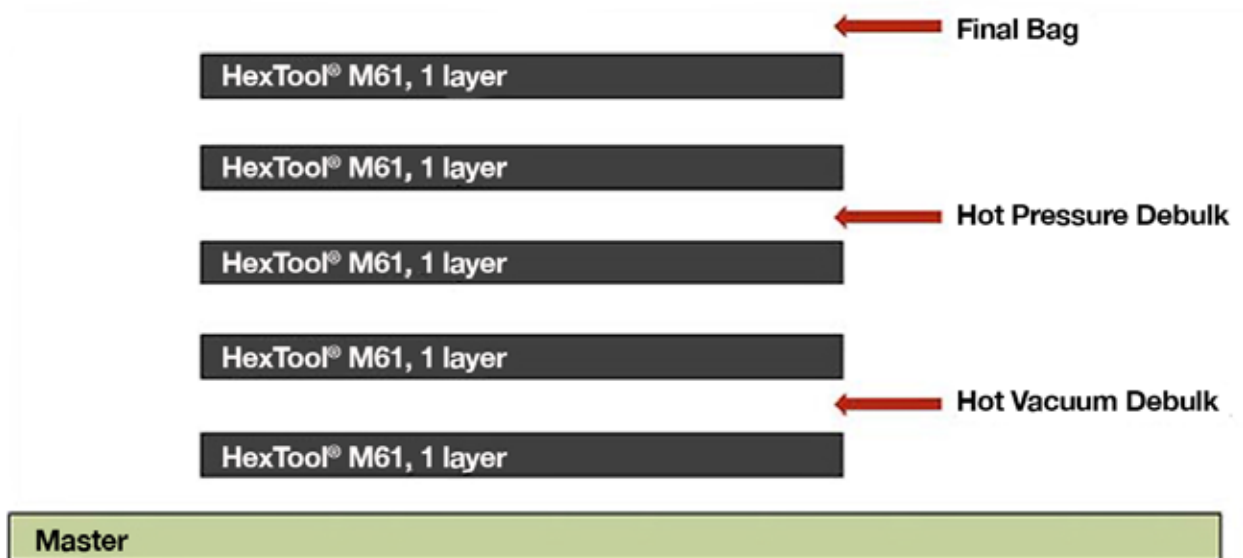

Figure 6: Debulk schedule for standard thickness M61 HexTool® tool
- Debulking after the first ply is highly recommended to promote conformity with the tool master for both 2000 and 4000 g/m² grades of HexTool®. Thereafter, for 4000 g/m² HexTool®, depending on tool size and complexity, debulking is recommended after every 2 plies as shown in Figure 6. Build up plies as required to the desired thickness.
Refer to Figure 6 for debulking schedule.